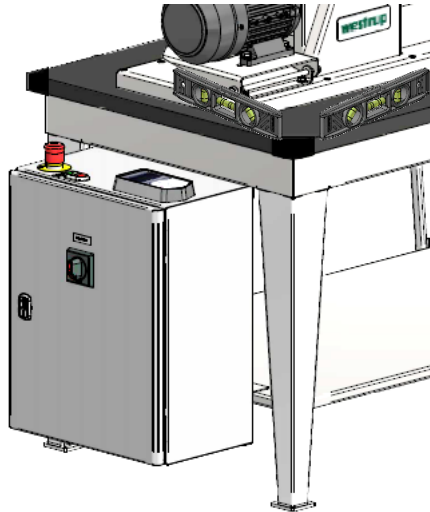

Figure 4-1: Levelling of machine
- Use spirit levels (See Fig. 4-1) to check whether the machine is level or needs to be aligned with shim plates.